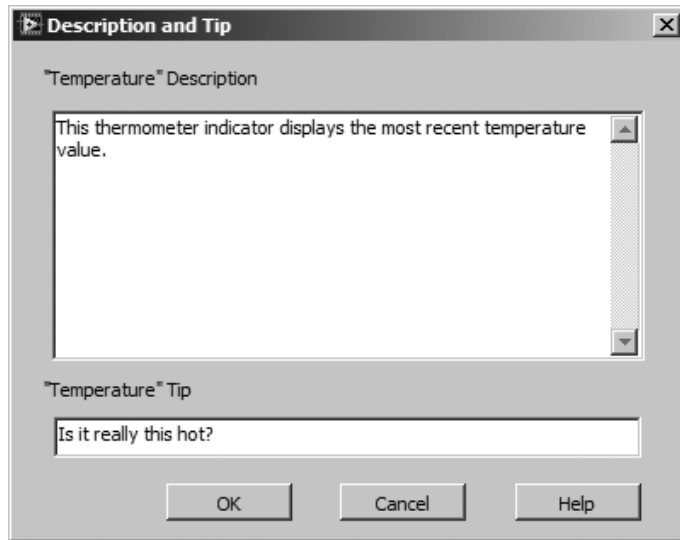

Figure 5.29
5. Document the Temperature indicator by selecting **Description and Tip . . .** from its pop-up menu. Type in the description and tip as shown and click OK when you're finished (see Figure 5.29).